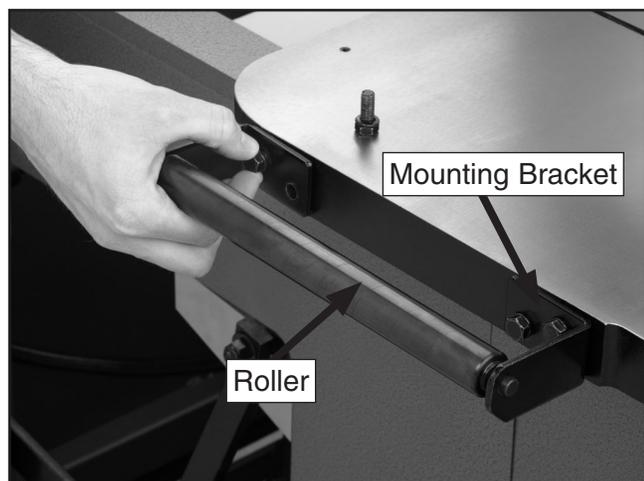

Figure 10. Mounting roller.
2. Slide one end of the roller into the attached bracket, slide the other bracket over the other end of the roller, then attach the bracket to the table with the remaining hex bolts and lock washers (**Figure 10**).